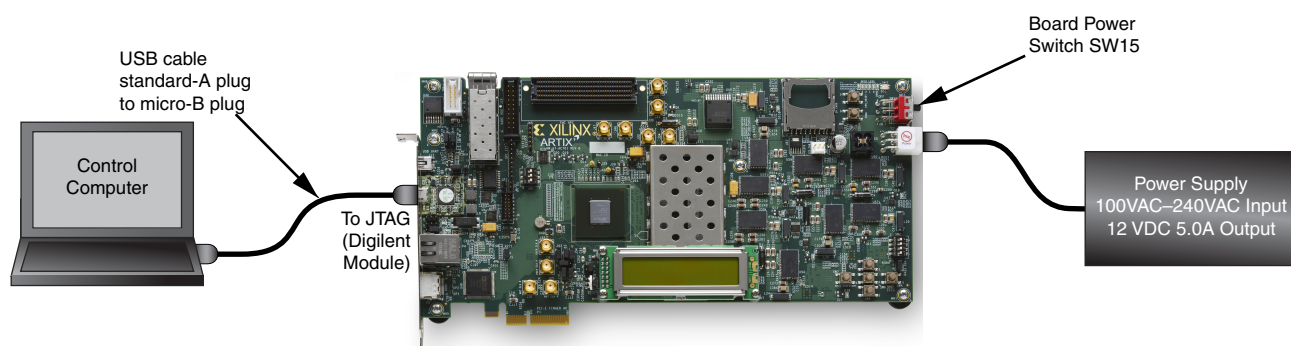

Figure 2-14: Connections for AC701 Board Programming
2. Connect the AC701 board as shown in Figure 2-14.
- b. Connect to the control computer to the AC701 board as shown in Figure 2-14.